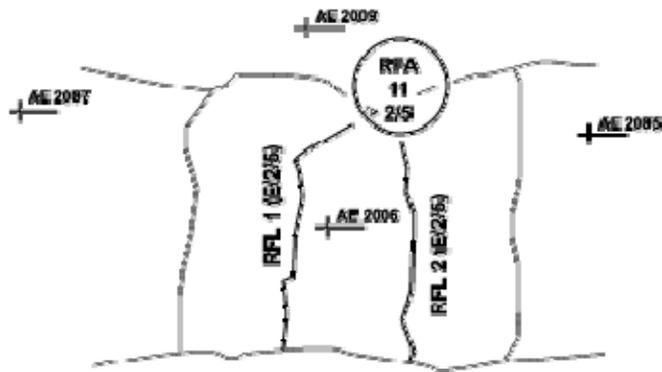

Figure 2. Fire Support Overlay for Infiltration.
3. **Standard Fire Support measures include RFLs along lane boundaries and RFAs around AAs and linkup sites.** Pre-planned targets are placed on known enemy OPs and positions. *See Figure 2.*